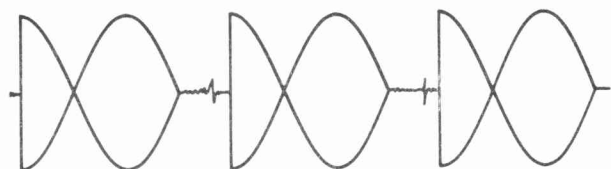
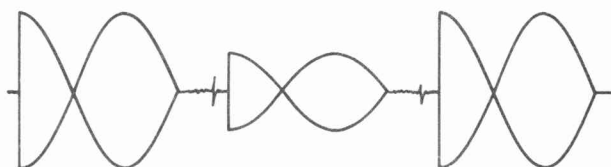
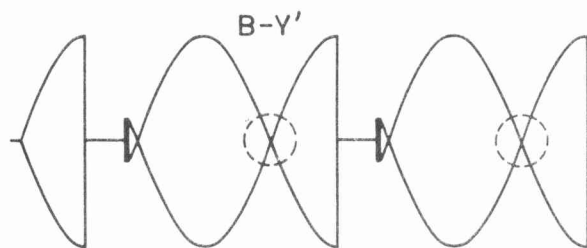
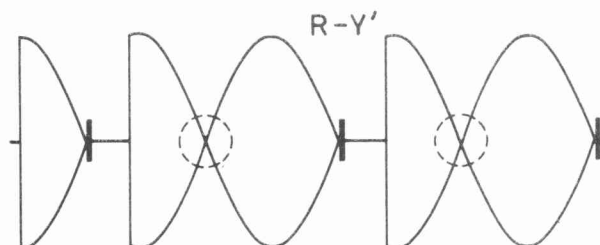

Fig. 10a
Fig. 10b
Fig. 11
Fig. 12
Apply the rainbow signal from the PM5507 and adjust the receiver to normal setting. Connect the "beam B" input of a double beam oscilloscope to junction R1104/U575 (test point "M19") and adjust the horizontal time base so that three periods are displayed (see Figs. 10a and 10b).
When Fig. 10b is obtained, adjust R1103 so that Fig. 10a arises. Subsequently, connect the "beam A" input to the collector of TS445 (test point "M18") and adjust the horizontal time base so that $2\frac{1}{4}$ periods arise (see Figs. 11 and 12). In these figures the sections indicated by means of the circle are essential. Display one of these sections on the oscilloscope by setting the horizontal amplitude to x5 (if necessary, use Xshift). The oscilloscope may now show one of Figs. 13.
- If Fig. 13a is displayed both for the B-Y' (Fig. 11) and for the R-Y' signal (Fig. 12), the amplitude and phase of the delay line are correct and no further adjustment is necessary.